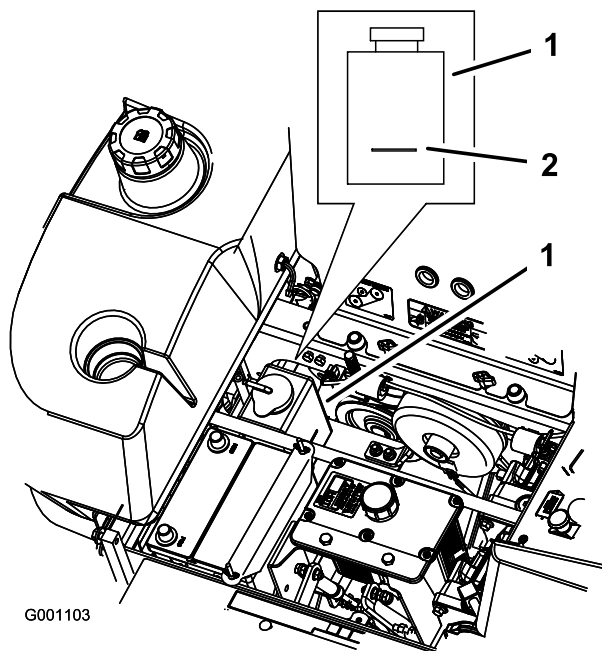

Figure 61
3. With the engine cool, check the overflow bottle level. The fluid needs to be up to the bump on the outside of the overflow bottle (Figure 61).
4. If the coolant level is low, add a 50/50 mix of extended life antifreeze/Dex-Cool® and water to the overflow bottle (Figure 61).
5. Add the 50/50 coolant mix to the overflow bottle and fill it to the indicator line on the bottle (Figure 61).